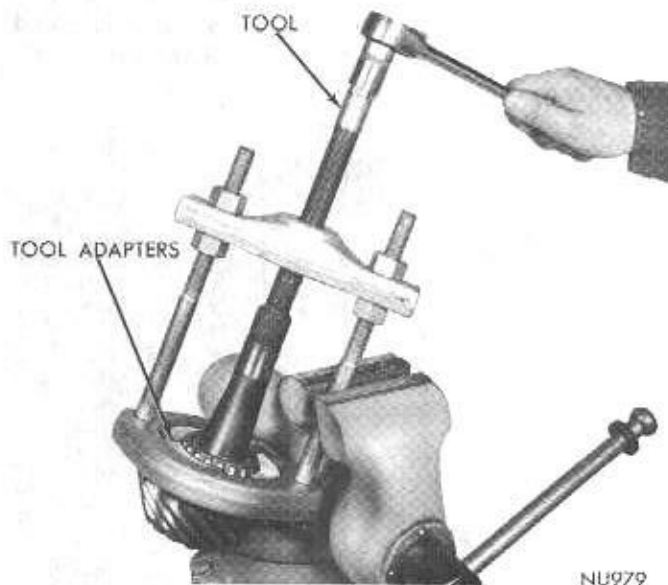

Fig. 12—Removing Drive Pinion Rear Bearing Cone
(13) To remove drive pinion or front pinion bearing cone, the pinion stem must be driven rearward out of the bearing. **This will result in damage to bearing rollers and cup and both bearing cone and cup must be replaced with new parts.**
(14) Using a flat end brass drift and hammer, remove front and rear bearing cups from housing. Remove the shim from behind rear bearing cup and **record thickness** which can be very helpful during reassembly. Discard the damaged shim.
(15) Remove rear bearing cone from drive pinion stem using Tool C-293 and adapters No. 42. Care must be taken to insure that the adapters are located so as not to pull on bearing cage (Fig. 12).